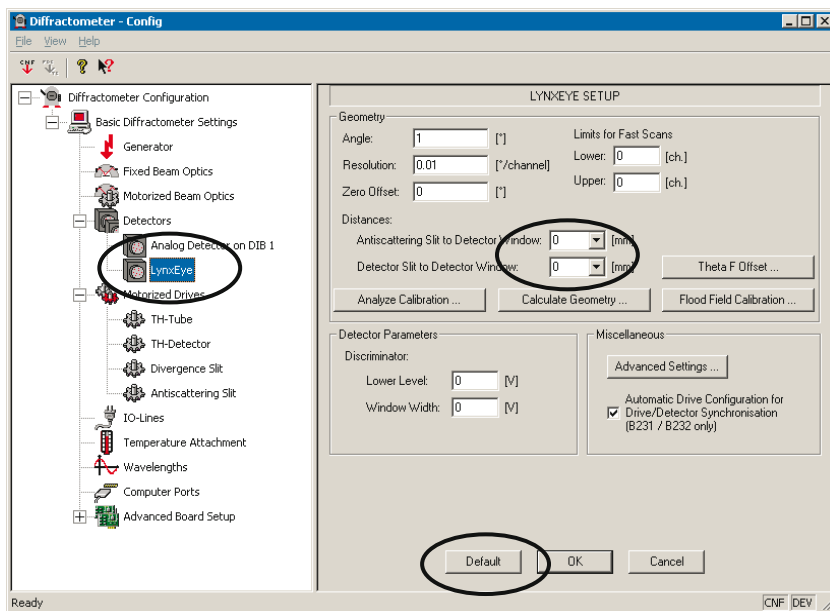

Figure 6.5 LynxEye menu
5. Select **LynxEye** (see Figure 6.5)
- Select the correct distances for Detector Slit (18.8 mm) and Antiscattering Slit (91.1 mm or 98.2 mm or 130.6 mm dependent on the measurement circle diameter (see Figure 6.5))